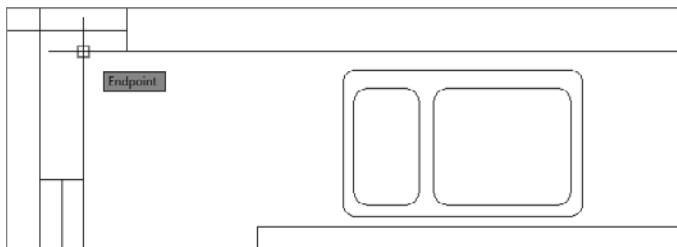

FIGURE 7.33 Setting the first tracking point to locate the window block
- At the Specify insertion point: prompt, position the crosshair cursor over the intersection of the inside wall lines in the top-left corner of the cabin, as shown in Figure 7.33.